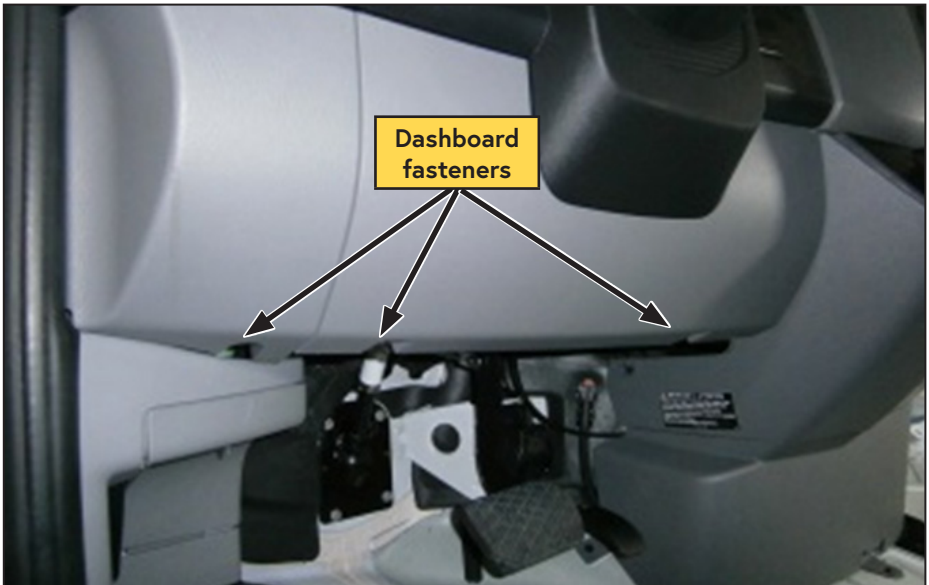

Figure 47 — Remove lower dashboard panels
- Remove the driver side lower dashboard panels (Figure 47).